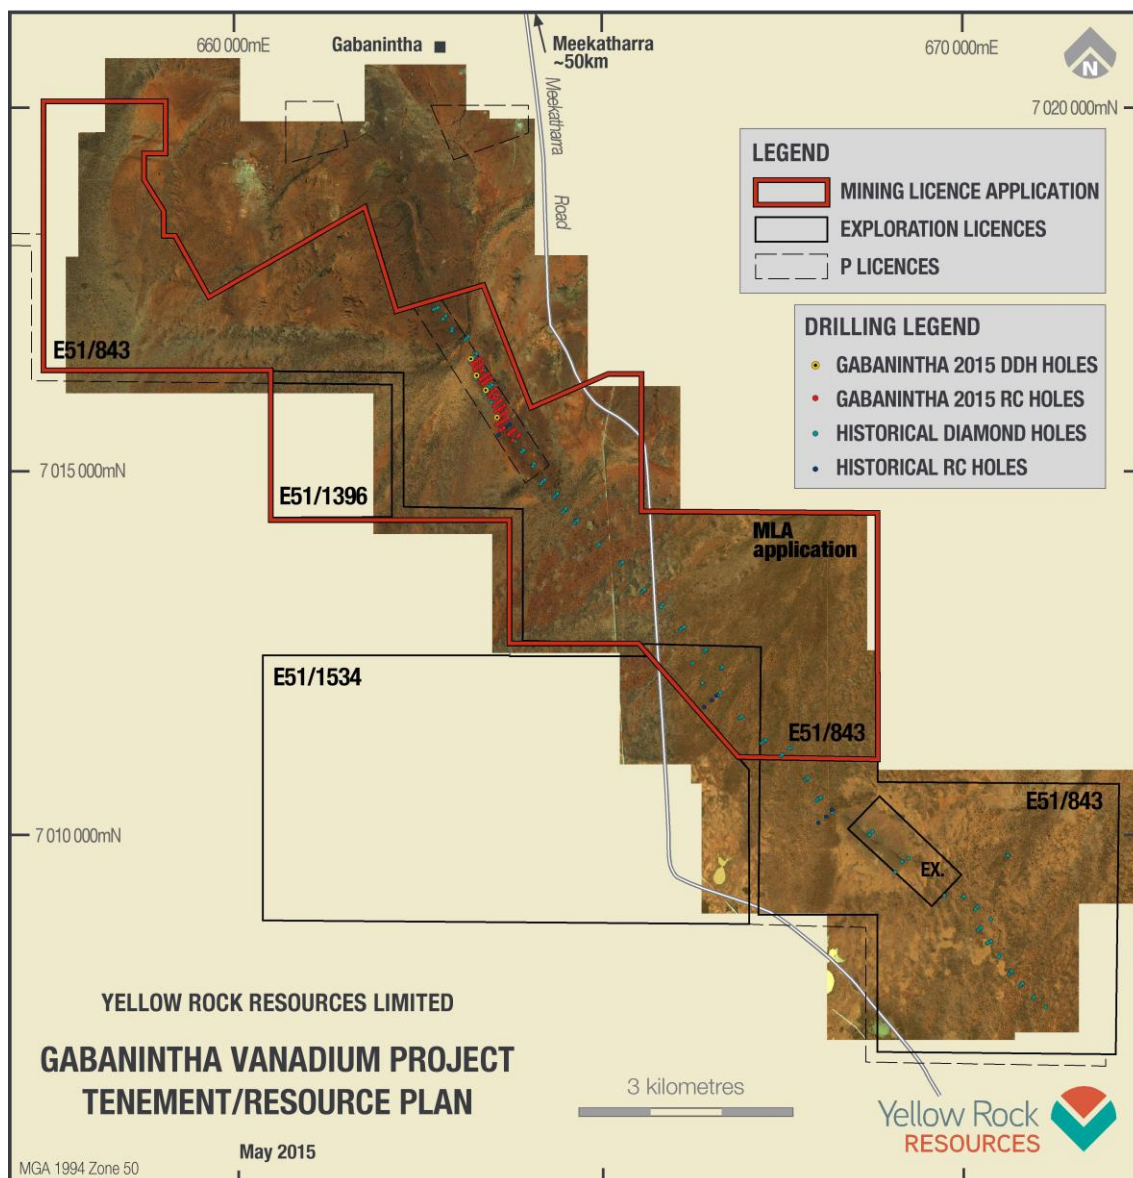

Figure 1: Plan view of the Gabanintha Vanadium Project showing the current and historical drilling.
Final assay results have now been received from the recently completed large diameter diamond drilling program at the Gabanintha Vanadium project in the Murchison District of Western Australia (See Figure 1). The completion of the eight-hole, 761m diamond drilling program allows the Company to move rapidly towards upgrading and updating its resource estimate at Gabanintha.
- The mineralised zones are westerly dipping at between 45 and 55 degrees. Drilling is oriented at -60 degrees to the east-north-east (050), and intersects the mineralisation at close to true widths.
- Figure 1 shows the location of all drill holes (current and historical) and the license tenure.